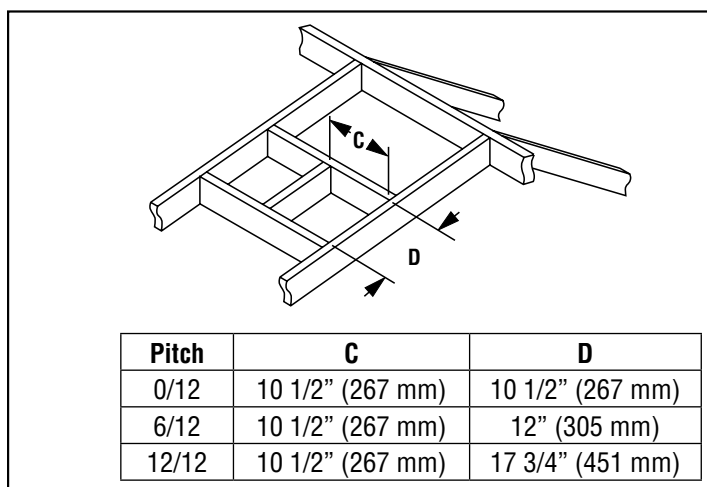

Figure 19 - Roof Framing Dimensions
3. **Frame the roof opening**—Identify the location for the vent at the roof. Cut and/or frame opening (**Figure 19**).